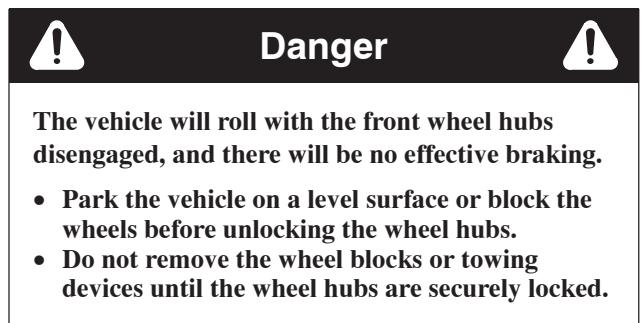

**Figure 33**
1. Bypass valve is located in left side of variable displacement pump (Fig. 33). Rotate the valve 1/2 to 1 turn counterclockwise to open and allow oil to by-pass internally. Because fluid is bypassed, the machine can be **slowly** moved without damaging the transmission.